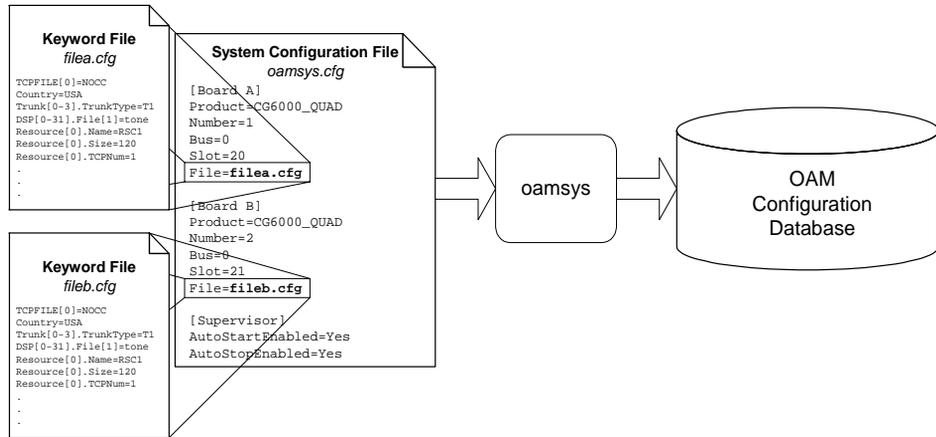

Figure 13. OAM Configuration Files
- For each board, the name of one or more *keyword files* containing parameters and values to configure the board (see Figure 13). These settings are expressed as keyword name/value pairs.